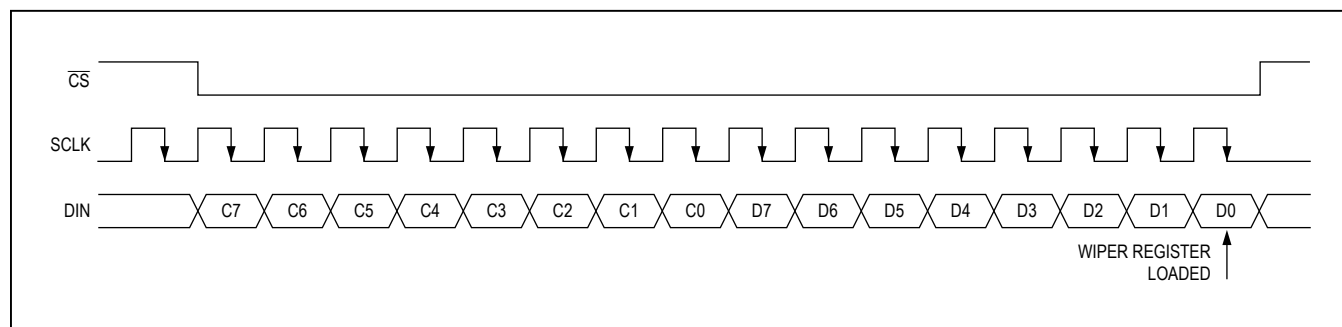

Figure 3. SPI Digital Interface Format
The SPI digital interface uses a 3-wire serial data interface to control the wiper tap position. This write-only interface contains three inputs: Chip Select (CS), Data In (DIN), and Data Clock (SCLK). When CS is taken low, data from the DIN pin is synchronously loaded into the serial shift register on each falling edge of each SCLK pulse (Figure 3). After all the data bits have been shifted in, they are latched into the potentiometer control register. Data written to a memory register immediately updates the wiper position.